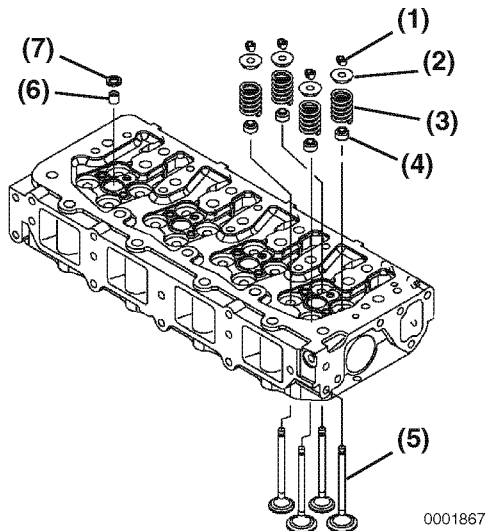

Figure 6-49
3. Remove the valve keepers (Figure 6-49, (1)).
5. Remove the spring retainer (Figure 6-49, (2)), valve spring (Figure 6-49, (3)).
7. Remove the injector nozzle protectors (Figure 6-49, (6)) and the seats (Figure 6-49, (7)).
8. Turn the cylinder head so the exhaust port side faces down. Remove the intake and exhaust valves (Figure 6-49, (5)) from the cylinder head.
9. Remove the valve stem seals (Figure 6-49, (4)).